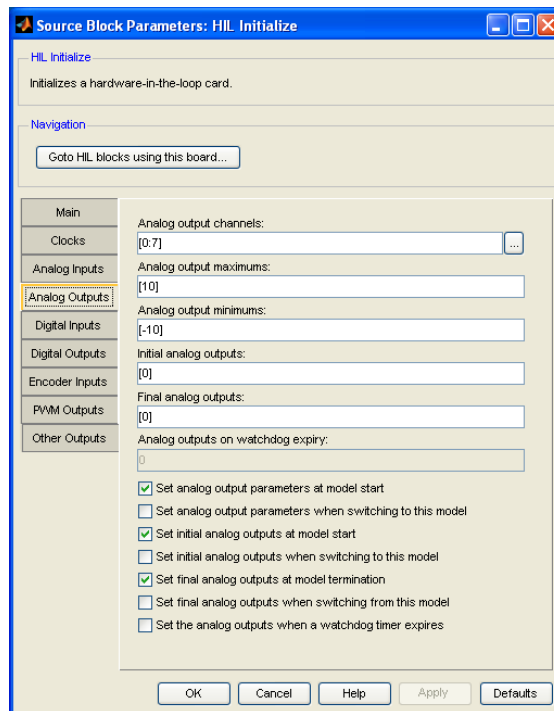

Figure A.3: Configuring Analog Output channel on DAQ device
10. Go to the *Analog Output* pane shown in Figure A.3. Make sure the *Analog output channels* field includes 0. This will ensure 0 V is output from Analog Output channel #0 when the QUARC controller is stopped. For more information, click on the *Help* button. Otherwise, click on the OK button and proceed.